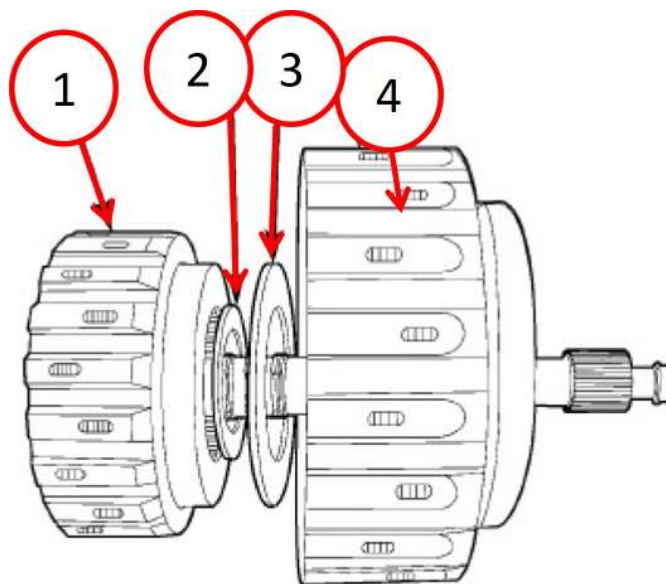

Fig. 7
11. Remove the K2 clutch assembly and the selectable input shaft end-play thrust bearing number one and thrust washer from the K1 clutch/input shaft assembly Fig. 7.